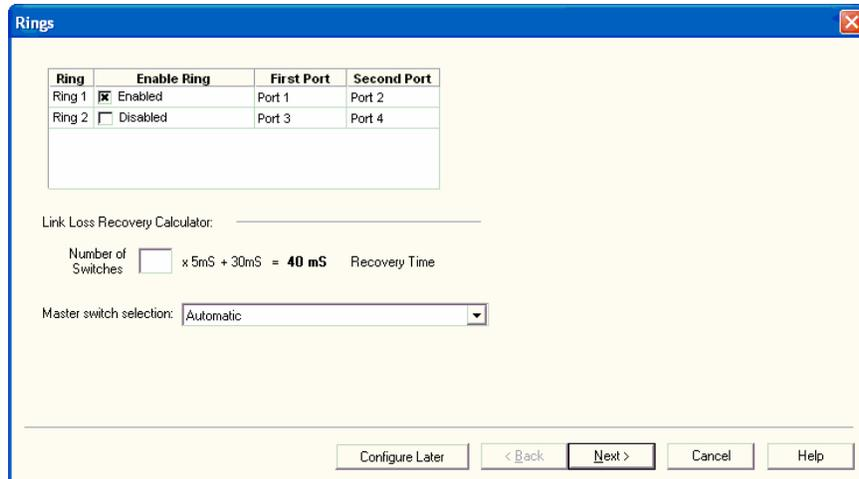

Figure 4.2
- The source and destination stations are connected to each other via a fiber ring such that fiber runs from port 1 of the first switch to port 1 of the second switch. Another fiber runs from port 2 of the first switch to port 2 of the second switch. Since each dual-fiber switch uses ports 1 and 2 in the ring, the integrator configures the rings screen as shown in Figure 4.2.
2. The integrator realizes that the current configuration in the destination station will have to be modified, however, because, as shown previously in Figure 4.2, only one ring is enabled on the switch.